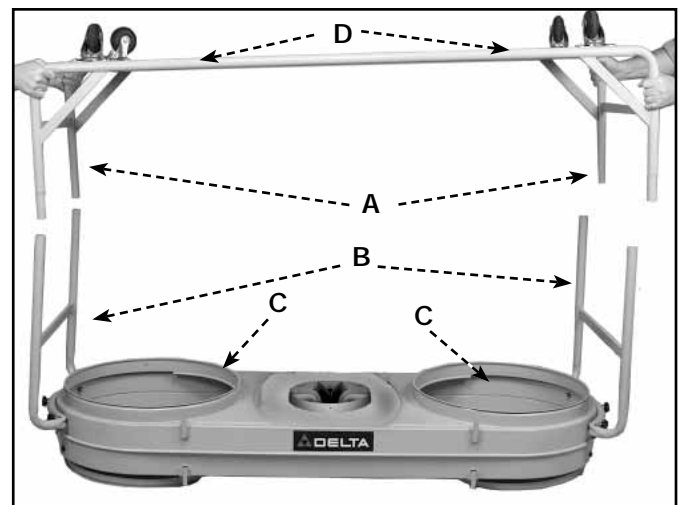

Fig. 3
Place all four stand posts (A) Fig. 3 into four legs (B) on motor/blower assembly.